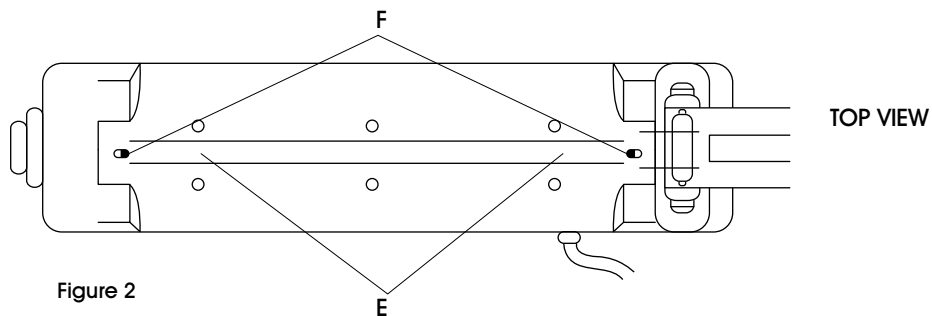

Figure 2
3. After removal of metal cover plates, teflon tapes and element, clean sealing surface (E) with cleaner, adhesive remover is recommended, until free of glue and debris. (See Figure 2)
4. Peel off backing of adhesive teflon tape. Apply evenly onto sealer. Excess tape should extend all the way to the terminal posts (F). If the element touches any metal, the sealer will short out. (See Figure 2)